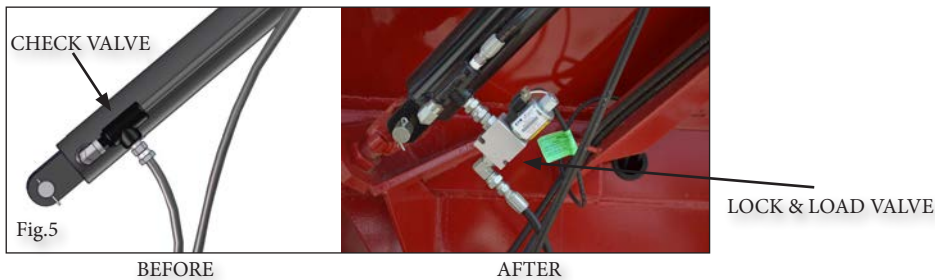

Fig.5
8. Remove the bottom hose from the check valve on the folding cylinder in the front of the cart. (Fig 5.)
9. Install JM0030064 to the top port on the Lock & Load valve. Use a 7/8" wrench. (Fig 5.)
10. Attach the Lock and Load valve to the check valve. (Fig 5.)
11. Install #8 O-Ring x 3/8 NPT Female Swivel 90 Degree fitting to the bottom of the Lock & Load valve. Orientate the Lock and Load valve according to Fig. 5.
12. Attach hose from step 7 to the #8 O-Ring x 3/8 NPT Female Swivel 90 Degree fitting. (Fig 5.)